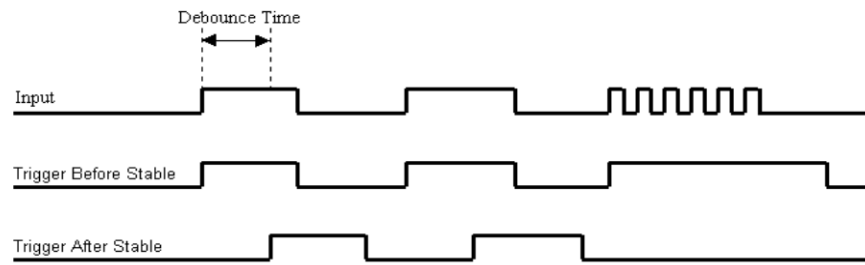

Figure 22. Optimal debounce time for *trigger after stable* mode
*Trigger after stable* mode behaves more like a traditional debounce function: rejecting glitches and only passing state transitions after a required period of stability. Use *Trigger after stable* with electromechanical devices like mechanical switches to reject switch bounce and disturbances due to a vibrating encoder that is not otherwise moving. The debounce time should be set short enough to accept the desired input pulse, but longer than the period of the undesired disturbance, as shown in Figure 22.